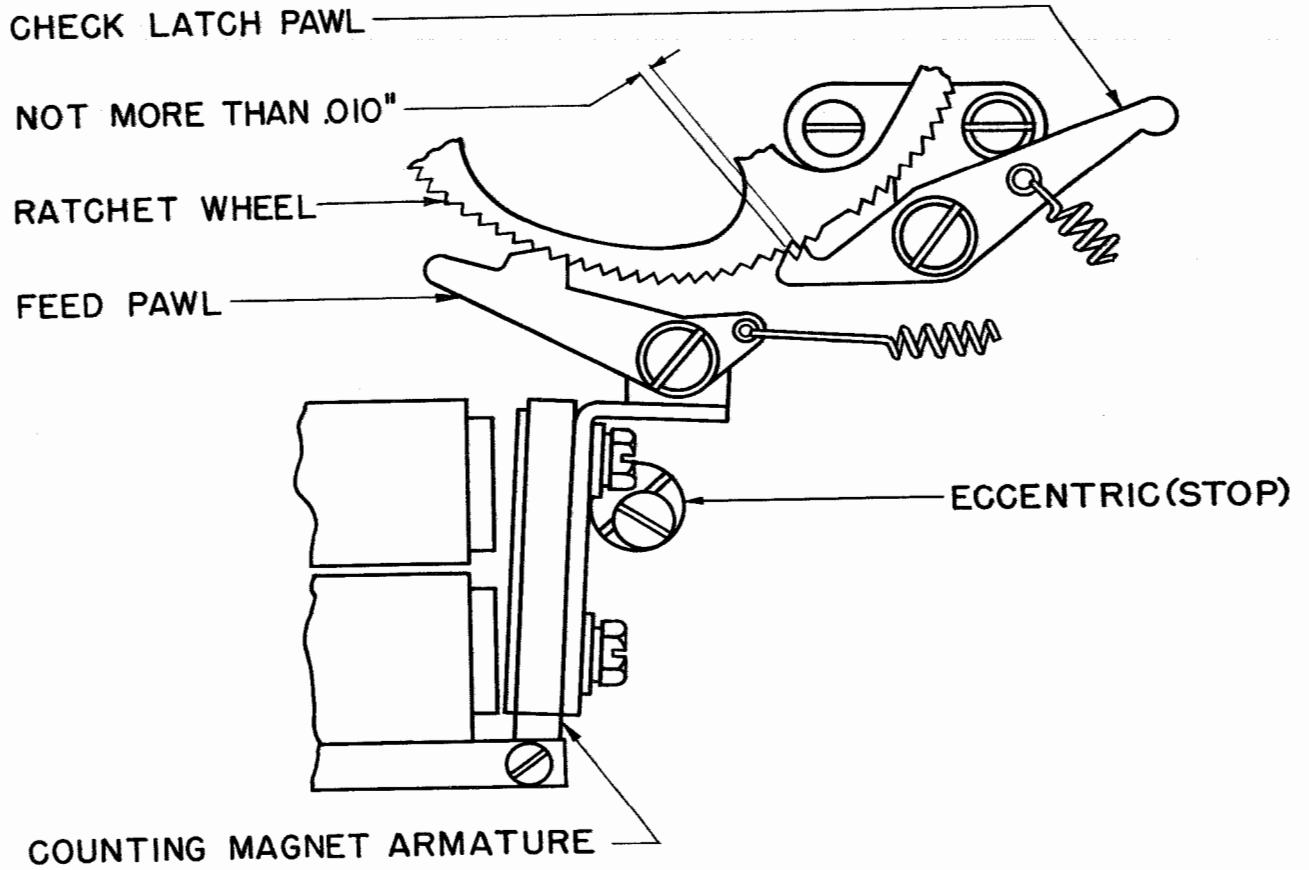

Figure 50
6.07 Counter Feed Pawl should advance the ratchet wheel one tooth for each operation of the counting-magnet armature and cause the ratchet wheel teeth to overtravel the check pawl by not more than 0.010 inch. Gauge by eye. See Figure 50.